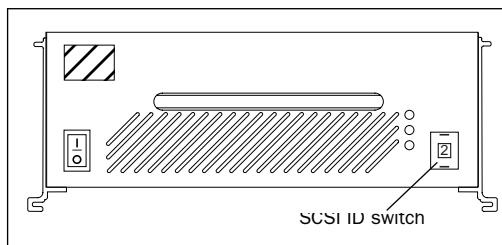

Figure 17. DigiDrive SCSI ID Switch Location
- 1 Locate the SCSI ID switch on the front of the DigiDrive (see Figure 17).